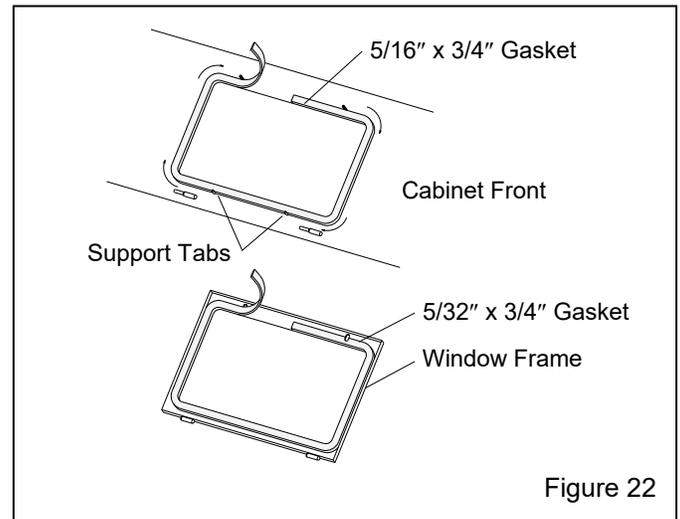

Figure 22
7.5 Window-Gasket Replacement – Figure 22
7.5.4 Peel a short section of adhesive backing from the 5/16"-thick strip gasket and adhere the gasket to the center of the top edge of the window opening, as shown in Figure 22. Peel additional backing as needed and work the strip around the radius of each corner, pressing it firmly to bond. Trim the gasket to fit and compress the ends to seal.